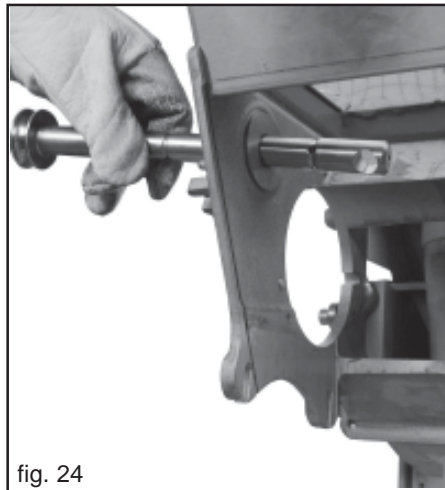

fig. 24
- 3) Remove the agitator (Fig. 24), ensuring that the bearing and protection disc on the opposite side do not drop down.